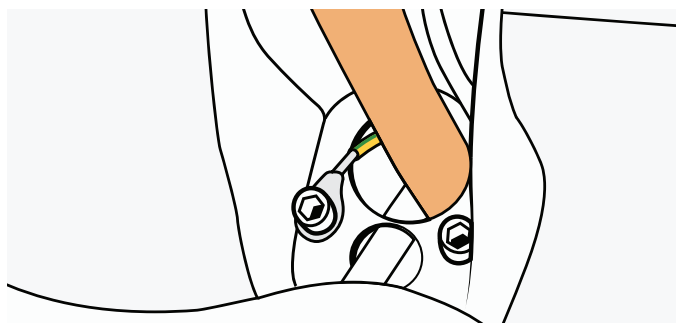

Figure 117
- Inside Fill spout. See Figure 117.